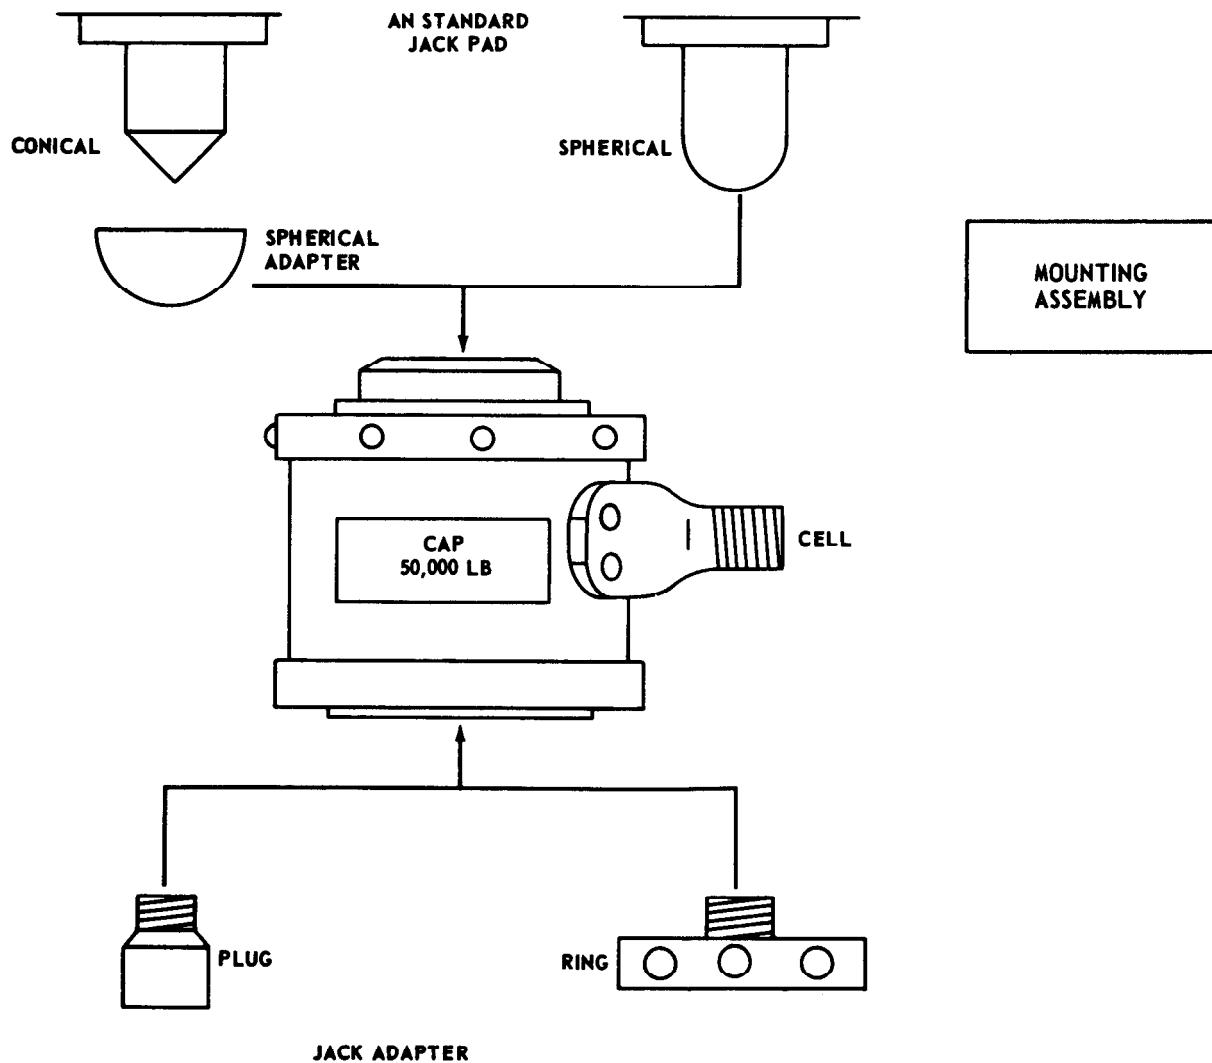

Figure 2-1. Adapter Applications.
a. Set cells on their respective jacks, selecting jack adapters and spherical adapters in accordance with figure 2-1. In attaching a weighing cell to a jack adapter, be sure adapter is fully threaded into cell. If a ring-type adapter is used, see that it is centered flush on ram, applying a partial load before tightening setscrews.